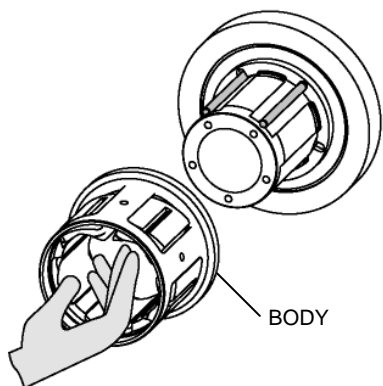

Fig. 9
6. **Caution!** The top lugs will fall toward center of body when the body is pulled off the actuator shaft. Reach inside the chuck and hold the two top lugs in place; carefully slide the chuck body off of the actuator shaft (Fig. 9). The five lugs will be loose in the body; set it down carefully.
3. Insert two rollers into the top positions in the synchronizer ring on the actuator (Fig. 9).
4. Make sure all lugs are installed in chuck body. Holding the top two lugs in place, align the lugs over the rollers and carefully slide the body over the rollers and onto the actuator shaft (Fig. 9).